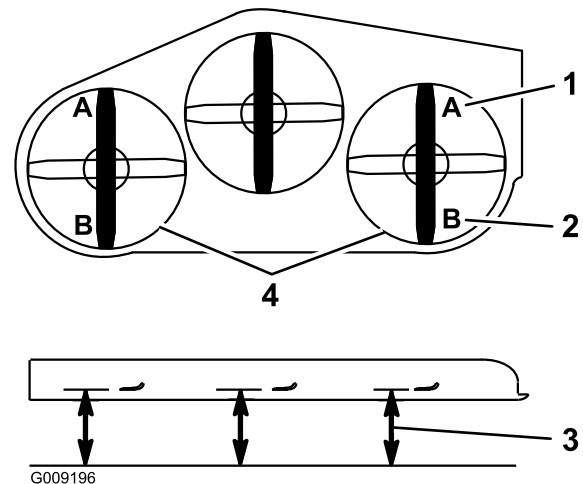

Figure 93
9. On both sides of the deck, measure from the level surface to the front tip of the blade (Position A). The measurement should read 7.6 mm (3 inches) (Figure 93).
measurement should read 8.3 cm (3-1/4 inches) (Figure 93).